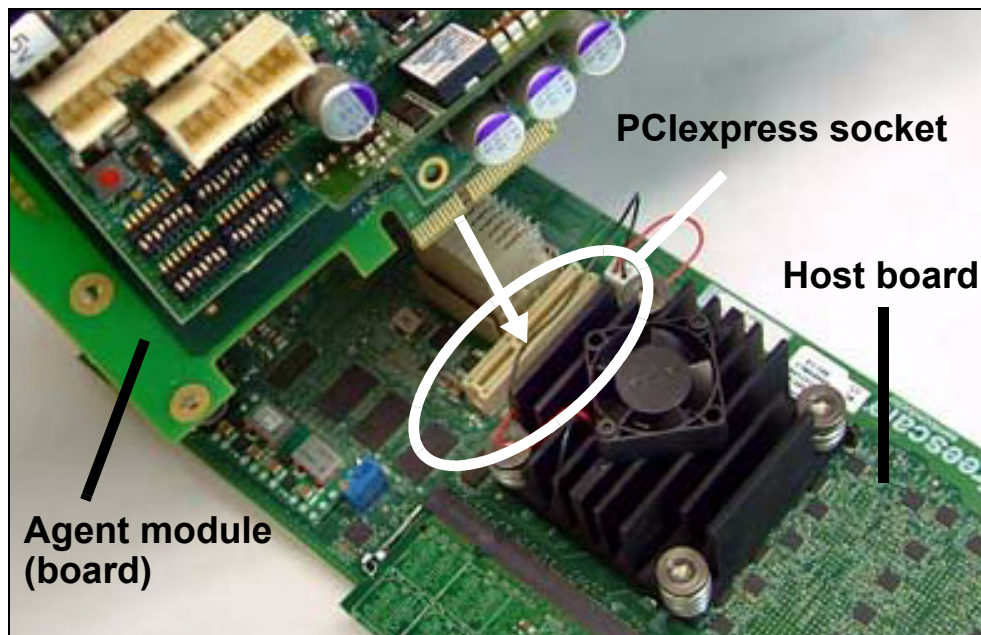
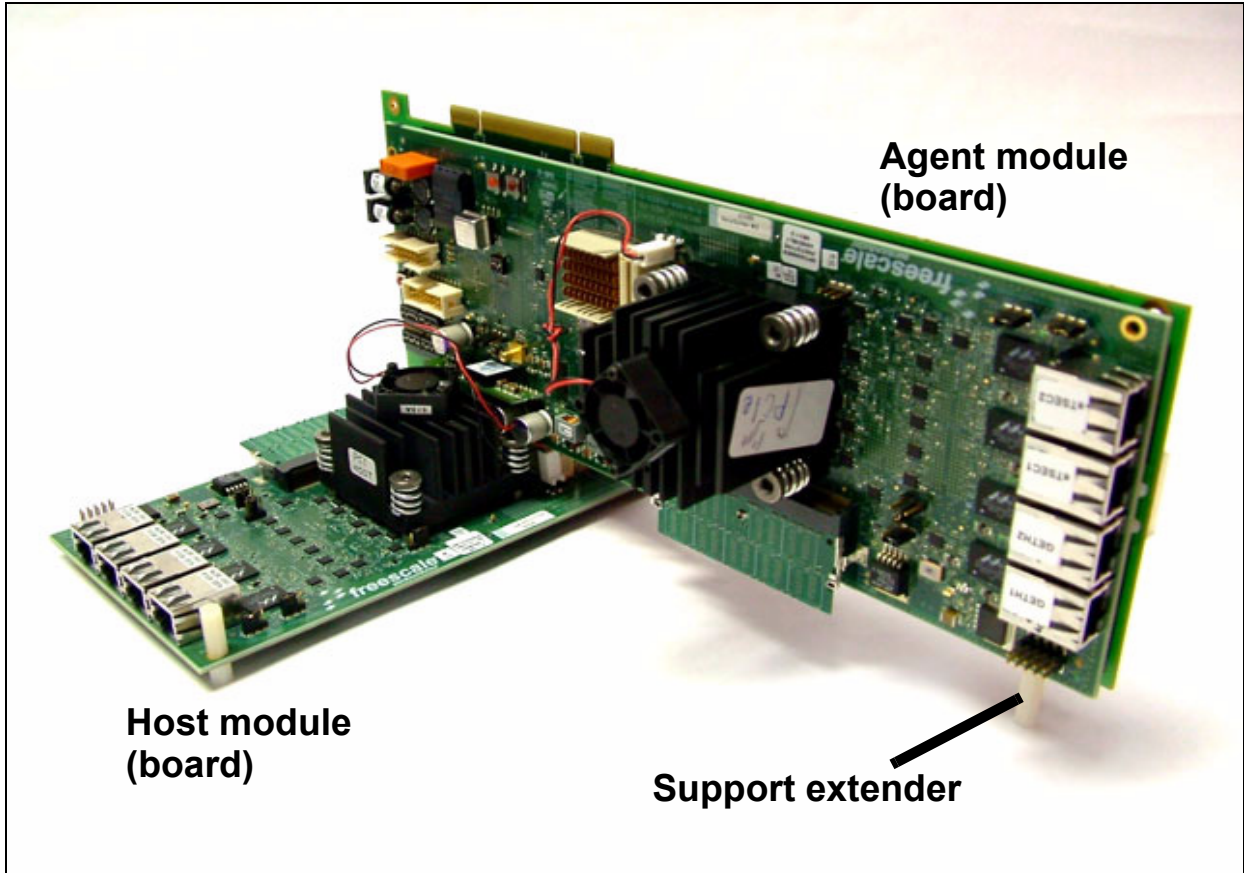

Figure 2-25. Connecting a PCIe agent module to the MPC8568E MDS Processor Board
Figure 2-26. Two boards connected via the PCIe socket (note support extender)
- d) Using the PCI\_PCIe adaptor's PCIe edge connector, insert the agent Processor Board into a host Processor Board, as shown in Figure 2-25 on page 2-16. Figure 2-26 on page 2-17 shows two boards connected. Figure 2-27 on page 2-18 shows two boards connected while the host board is on the PIB.